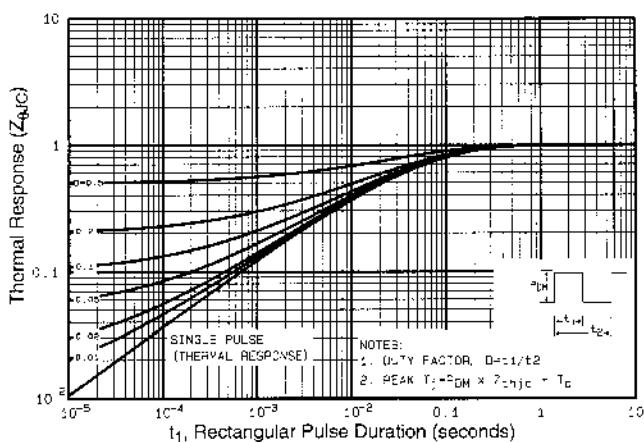

Fig 11. Maximum Effective Transient Thermal Impedance, Junction-to-Case
① Repetitive rating; pulse width limited by max. junction temperature (See Figure 11)
③ $I_{SD}\leq 10\text{A}$, $dI/dt\leq 120\text{A}/\mu\text{s}$, $V_{DD}\leq V_{(BR)DSS}$, $T_J\leq 150^\circ\text{C}$